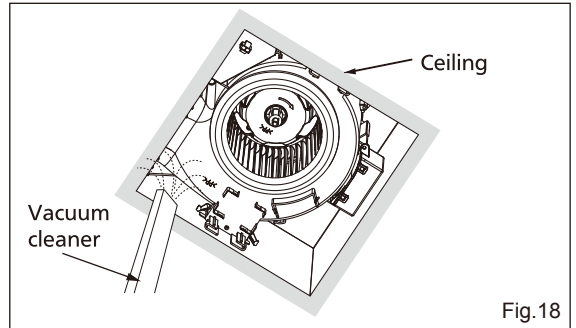

Fig.18
4. Remove dust and dirt from fan body using a vacuum cleaner. (Fig.18)